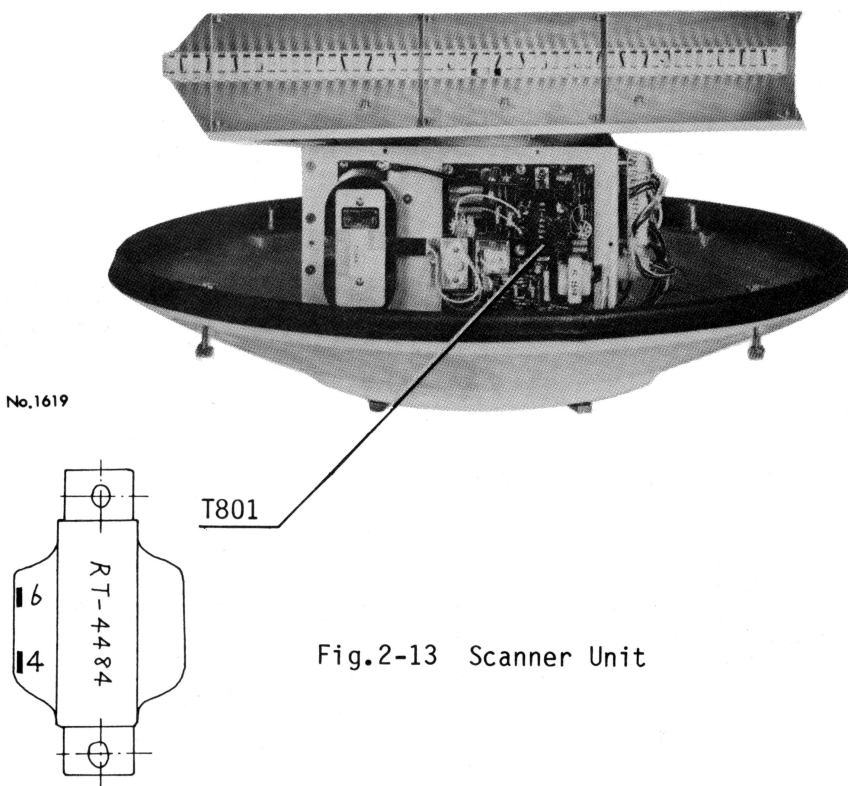

Fig.2-13 Scanner Unit
- 1) Connect a multimeter, set to 10VDC range, between terminals #4(+) and #6(-) of the pulse transformer T801. See Fig.2-13.